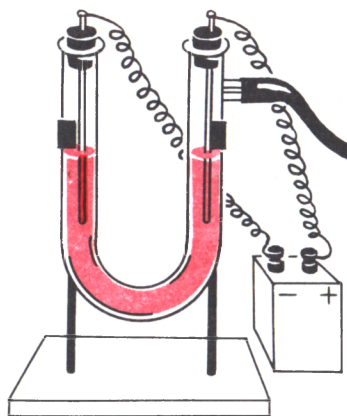

Fig. 5.6 Electrolyzer
Place copper(II) chloride solution into a U-tube (Fig. 5.6) and immerse the carbon electrode in each end. Connect the electrodes to the terminals of a storage battery: red copper will precipitate on the cathode and free chlorine will evolve at the anode (detectable by its odour). This indicates that the electric current has induced a chemical reaction in the copper(II) chloride solution decomposing the compound into copper and chlorine